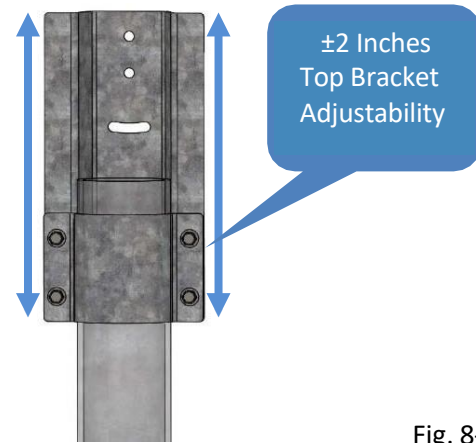

Fig. 8-1
- Top Bracket Up – Down: ± 2.0 inches (± 50 mm) (Fig. 8-1)